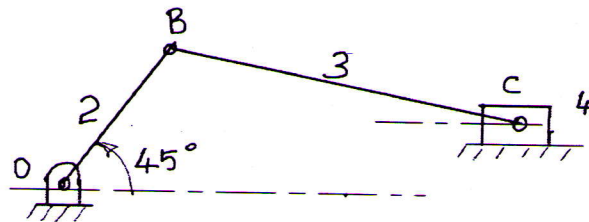

Figure 1
- 1 a) Distinguish between static analysis and dynamic analysis. (2)
- b) Describe the effects of friction on the forces the members of a slider crank mechanism. (3)
- c) Find the torque required to be applied on the crank (link 2) to for the static equilibrium of the slider crank mechanism shown in Fig. 1. Piston is positioned at a height of 10 cm from the pin O of link 2.  $OB = 50$  cm,  $BC = 100$  cm. Crank OB rotates in counter clockwise direction when a force of  $P = 400$  N acts on the piston. (5)